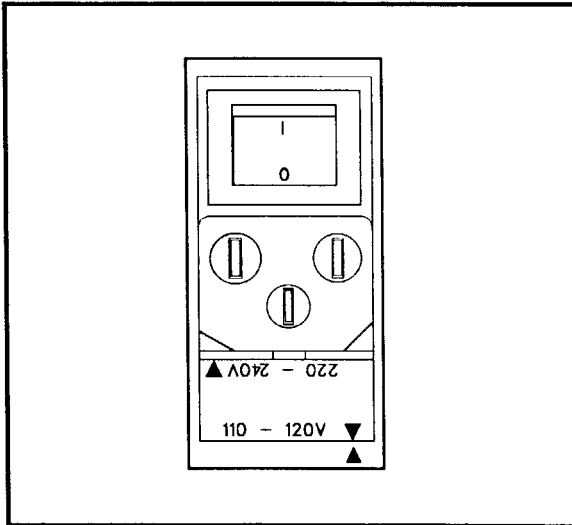
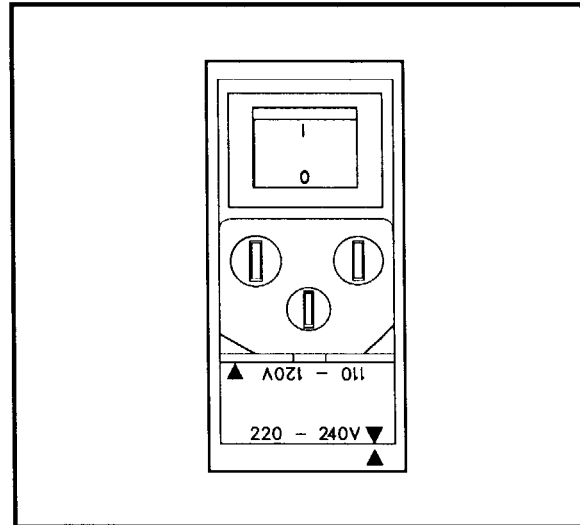

Figure 3-41a. 110-120V position.
Figure 3-41b. 220-240V position.
2. Grasp tray so that the selected line voltage matches the pointer at the lower right corner of the power entry module (refer to Figure 3-41a and Figure 3-41b).